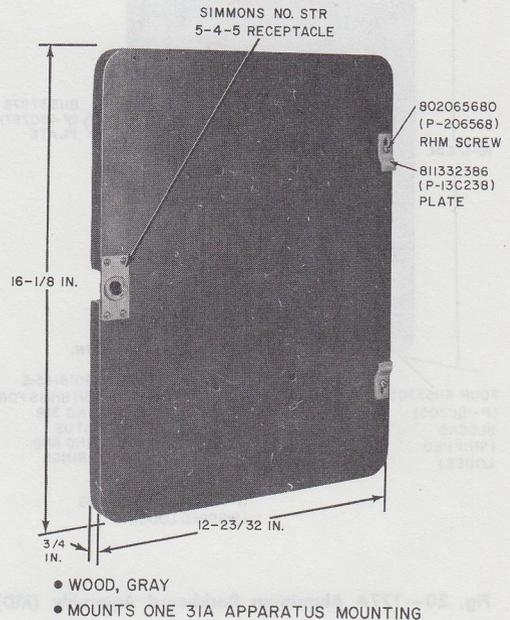

Fig. 19—173B Backboard
5.02 The 173B backboard (Fig. 19) is also finished in light olive gray and is designed to mount one 31A apparatus mounting.